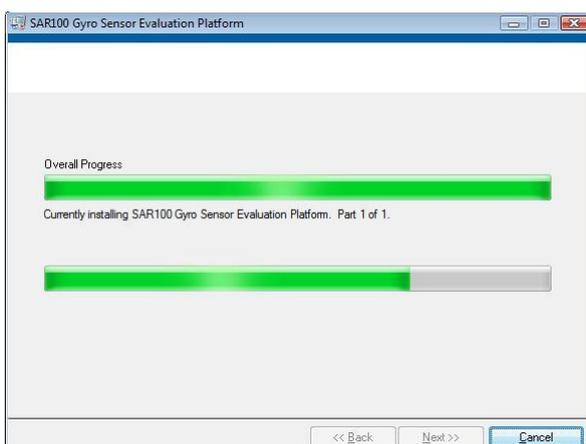
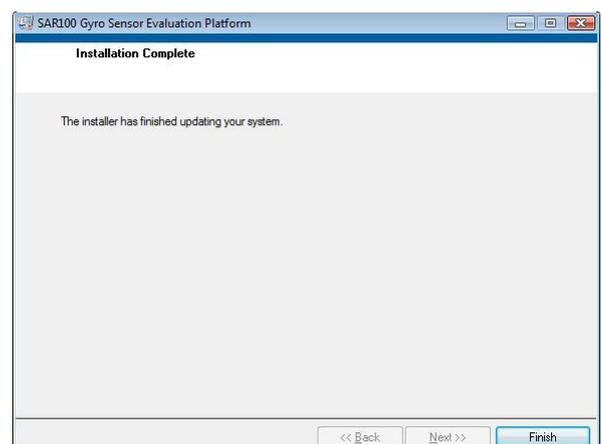

Figure 4: Installation in progress
Figure 5: Installation complete
4. Complete the installation process by following the on-screen instructions. When the installation is completed, click "Finish". See Figure 4 and Figure 5.